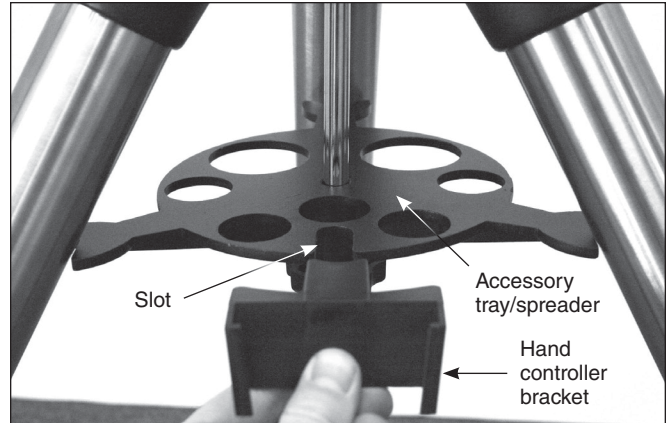

Figure 6. Hand controller bracket snaps into the slot in the accessory tray.
3. Insert the hand controller holder into the U-shaped slot on the accessory tray/spreader (**Figure 6**).